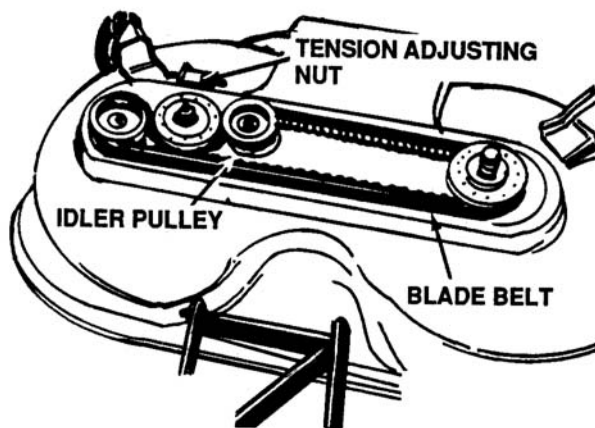

Figure 8-16. Removing Blade Belt
3. Loosen tension adjusting nut. See Figure 8-16.